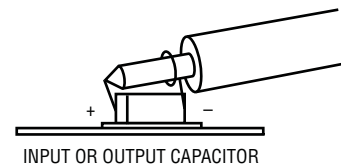

Figure 2. Proper Scope Probe Placement for Measuring Input or Output Ripple
- To measure the input and output ripple, please refer to Figure 2 for the proper set-up.